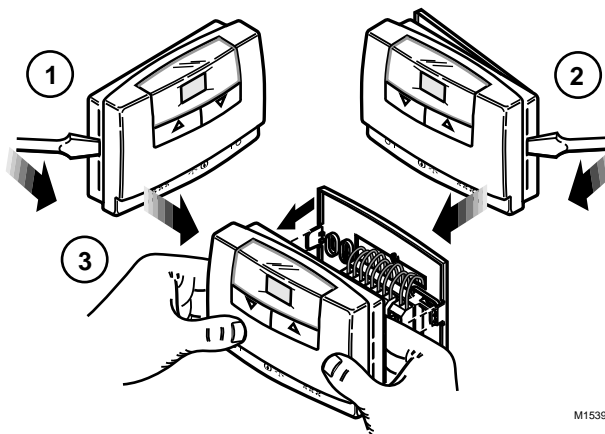

Fig. 2A. Removing thermostat from subbase.
1. Pry the left side of the thermostat away from the base (see Fig. 2a).
2. Pry the right side of the thermostat away from the base (see Fig. 2a).
3. Use both hands to pull the thermostat straight away from the base (see Fig. 2a).